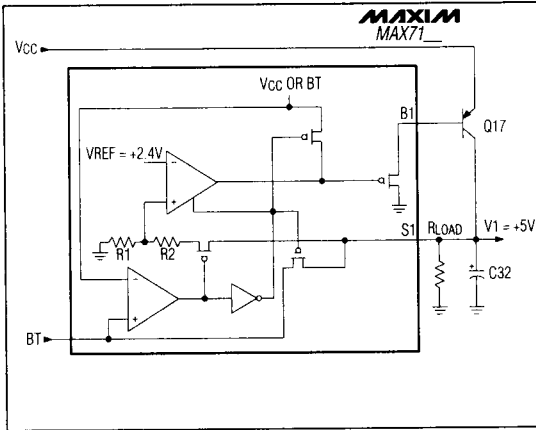

Figure 1. Functional Diagram and Circuit for Linear Regulator V1
**Note 4:** A Motorola 2N2907A PNP was used as the output transistor in Figure 1.
the selected output PNP pass transistors. The 2N2907A transistors in Figure 1 can provide load currents up to approximately 600mA.